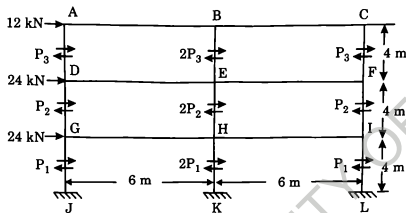

Figure 5
15. In Figure 5, wind loads are transferred to joints A, D and G are 12 kN, 24 kN and 24 kN respectively. Analyse the frame by Portal Method :